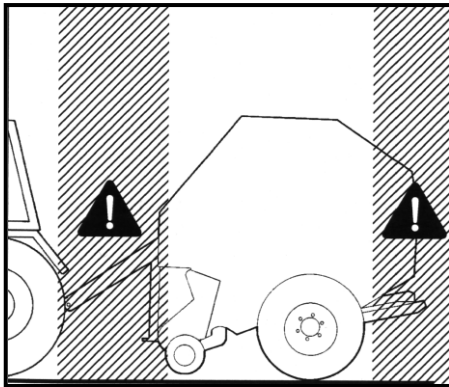

Fig. 3 – Hazard zone
- It is strictly forbidden to stand between the tractor and round baler with the engine running and the PTO shaft engaged (Fig. 3), and
All the safety signs positioned on one side the round baler and illustrated in Fig. 3 are applied in exactly the same position on the other side as well.